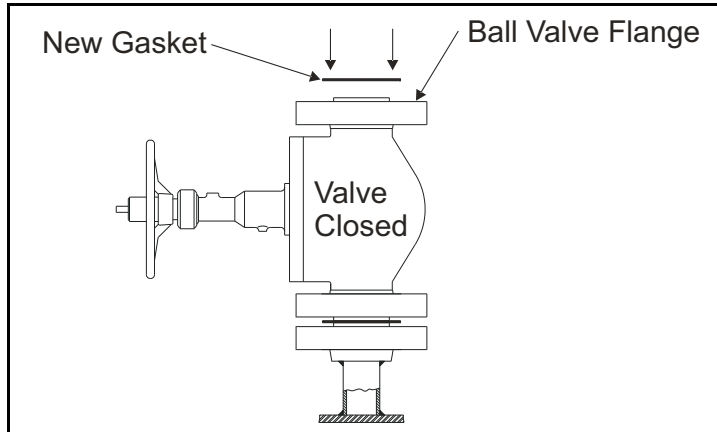

Figure 15: Placing a New Gasket on the Flange
5. Place a new gasket on the top of the ball valve flange (see *Figure 15* below).